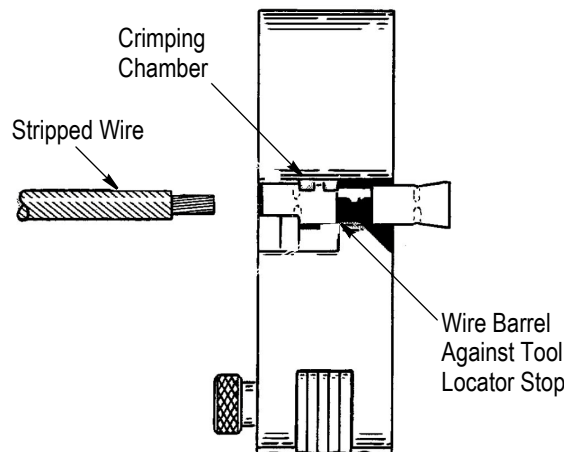

Figure 3
- Insert the terminal or splice into the crimping chamber as shown in Figure 3.